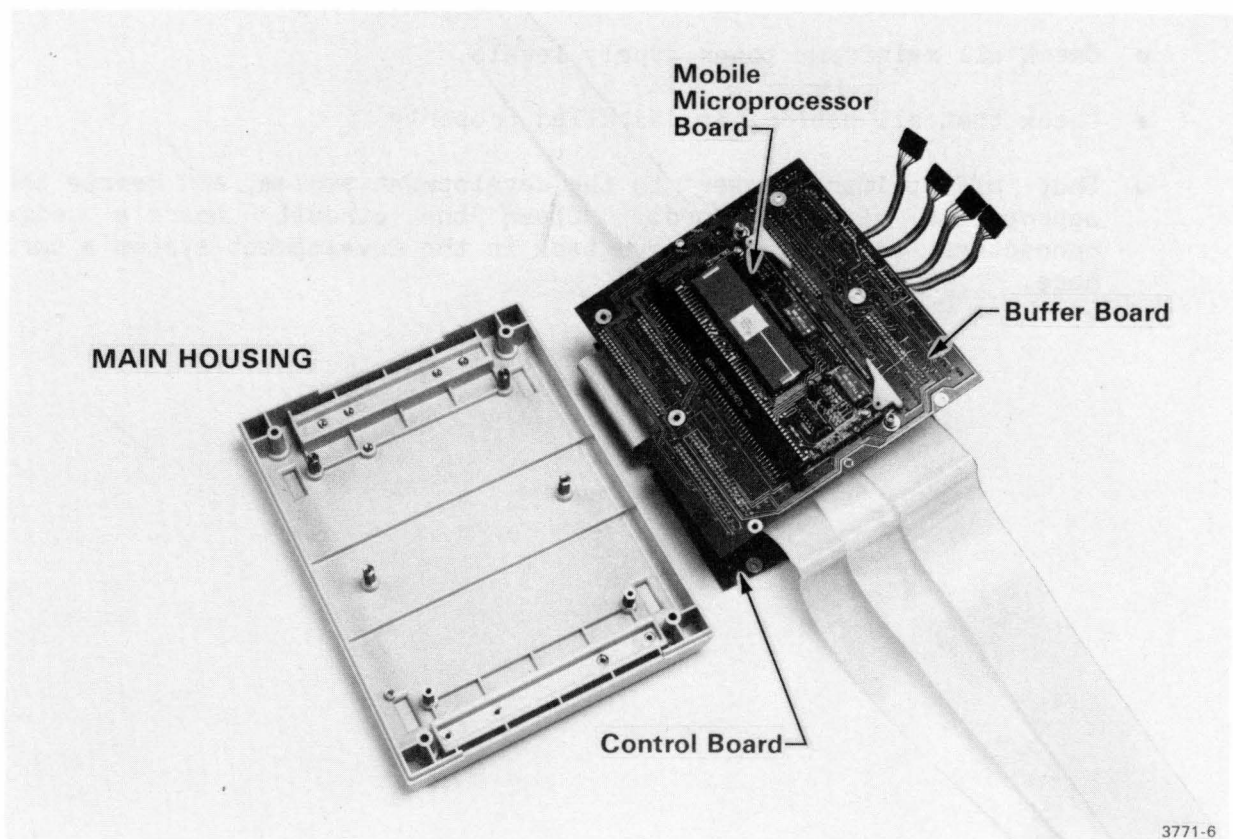

Fig. 8-8. Access to Mobile Microprocessor board.
10. Lift the Buffer board and turn it over to expose the Mobile Microprocessor board (refer to Fig. 8-8).